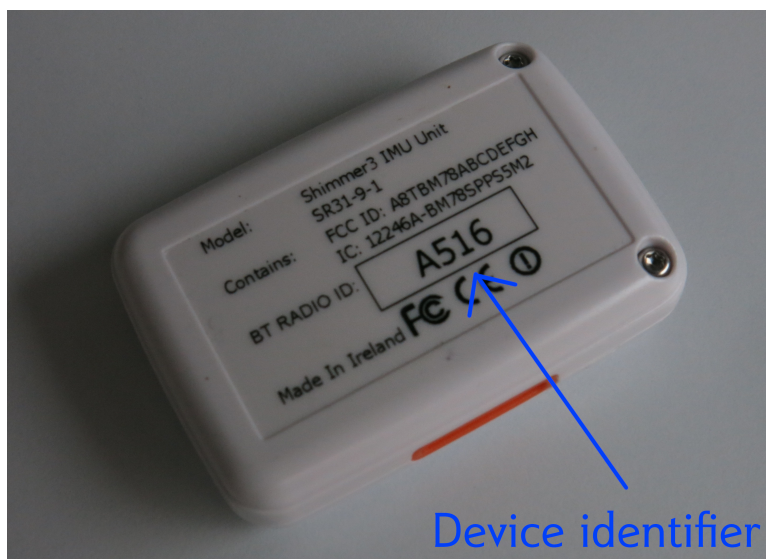

Figure 2.2: Device close-up
- dev_id** The unique identifier of a device. It is a 4-digit hexadecimal value that can be read at the back of each device (Fig. 2.2 shows you where this identifier can be found).